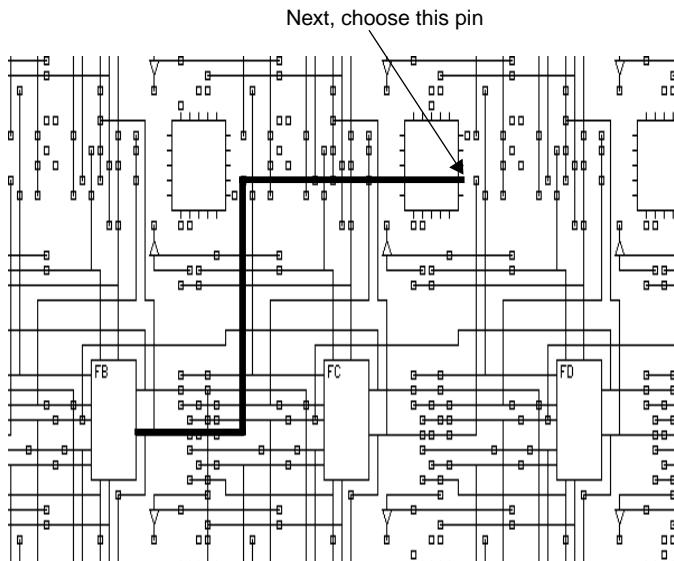

Figure 9-23 Manual Routing — Step 3
11. Select switch matrix pin 9 next, as illustrated in Figure 9-23.